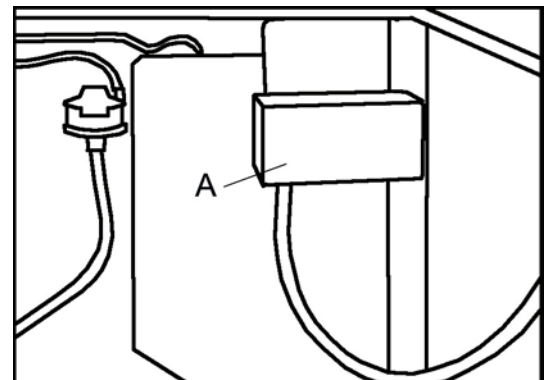
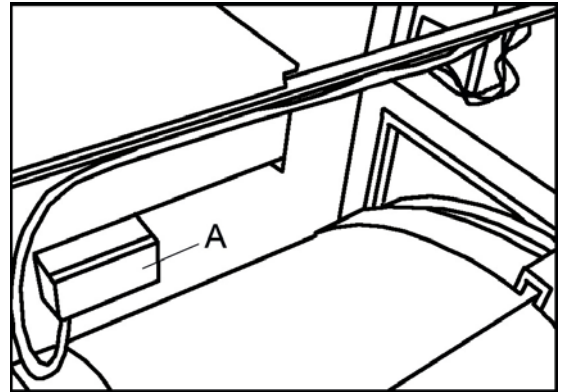

fig. 1
fig. 2
- Open circuit adapter box cover **A**. This box is located on the side of the inverter box (**fig. 2**) (HS-6008 & MS-610 units located at the rear panel **fig. 1**). Drill a hole in the inlet box protector to the size of the conductor to be used.